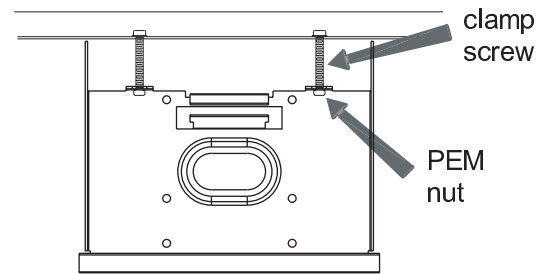

Figure 2
2. Loosen 2 clamp screws on back of luminaire, so no screw threads are showing past PEM nuts. See Figure 2. Set mounting plate and gasket aside. **Note: Do not remove screws or clamp!**